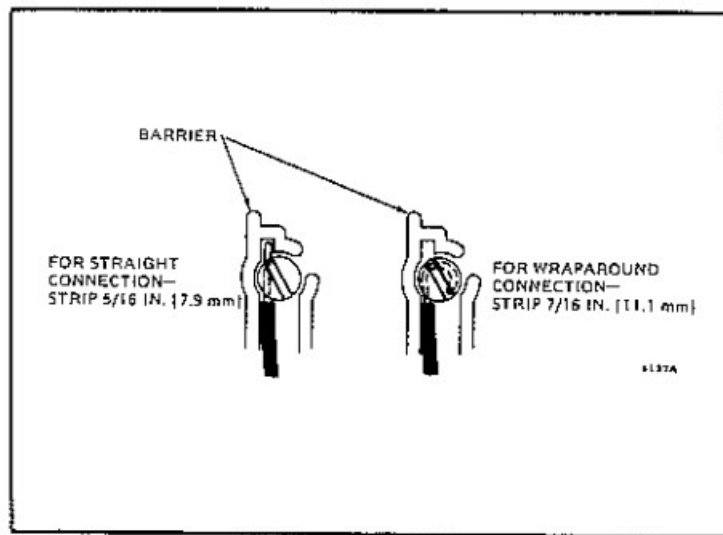

Fig. 4—Methods of connecting terminals.
- Refer to Fig. 4 and strip thermostat wire insulation as necessary.